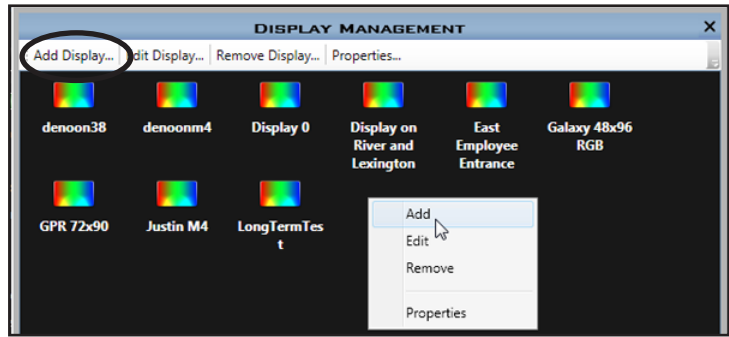

Figure 16: Configure a New Display
3. Click **Add Display...** from the **Display Management** window. Or right-click in the **Display Management** window and select **Add Display...**, as shown in **Figure 16**.